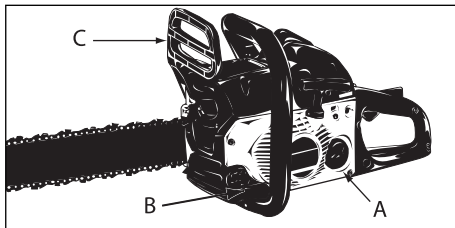

Fig. 8
1. Fill the fuel tank (A) with correct fuel mixture. (Fig. 8)
2. Fill the oil tank (B) with correct chain and bar oil (Fig. 8)
3. Be certain the chain brake is disengaged (C) before starting unit (Fig. 8)